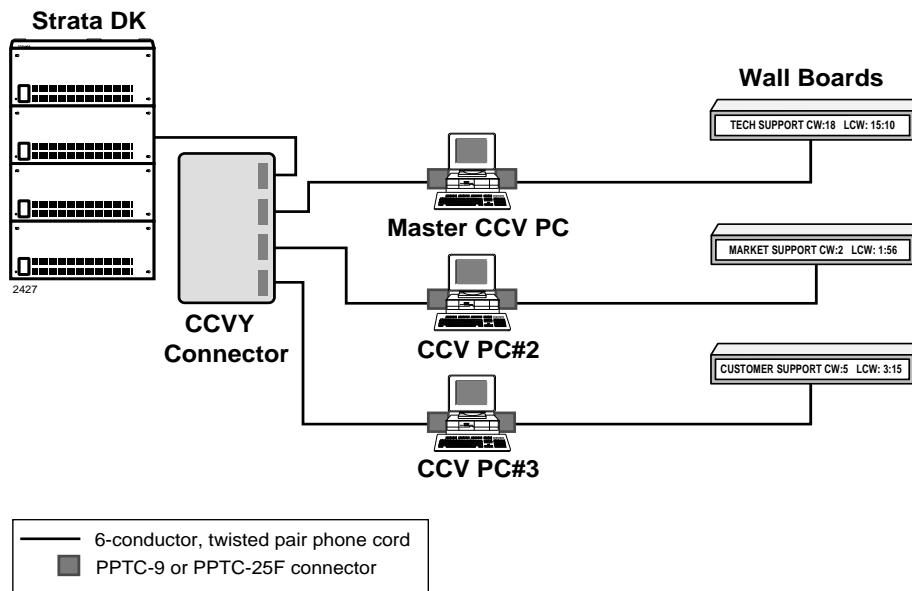

Figure 11-20 Connecting Strata DK to Two or Three CCV PCs
1. Install the CCVY connector into the Strata DK MIS port (RSIU, RSIS, RMDS, or PIOUS PCBs). See Figure 11-20.